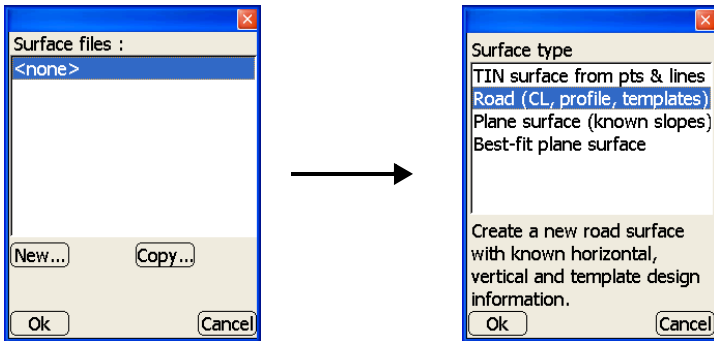

Figure 2-11. Surface Files Dialog Box
1. Press **Data ▶ Surface ▶ [<none> or file name]**. On the **surface files** dialog box, press **New** to create a design surface file, or press **Edit** to change a design surface file (Figure 2-11 on page 2-9).
2. On the **Surface type** dialog box, select *Road (CL, profile, templates)* and press **Ok** (Figure 2-11 on page 2-9).